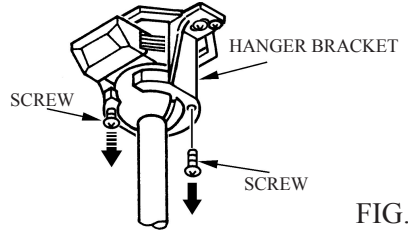

FIG.8
3. Remove one of screws and loosen the other screws from the hanger bracket. (see Fig.8)